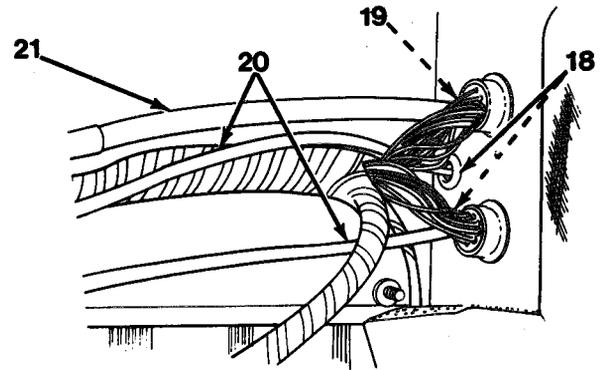
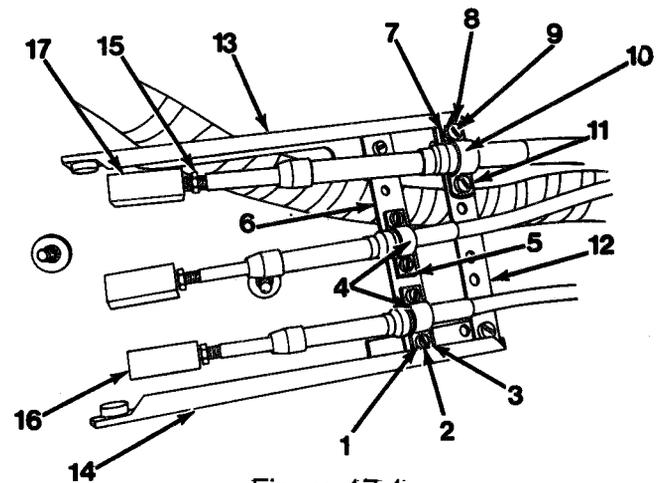

Figure 17-2
Figure 17-1
8. Install two grommets (18) and grommet (19, Figure 17-2) in rear cab panel.
9. Push two cables (20) and cable (21) through grommets (19) and (18) in rear of cab panel.
10. Install three jam nuts (15) on cables (21) and (20, Figure 17-1).
11. Install two cable terminals (16) on cables (20) and cable terminal (17) on cable (21).
12. Install three screws (9), lockwashers (8), nuts (7), clamp (10), shim (11) on lever shim (12) with left hanger (13) and right hanger (14).
13. Install five screws (3), lockwashers (2), nuts (1), two clamps (4) and two shims (5) on lever shim (6) with right hanger (14) and left hanger (13).